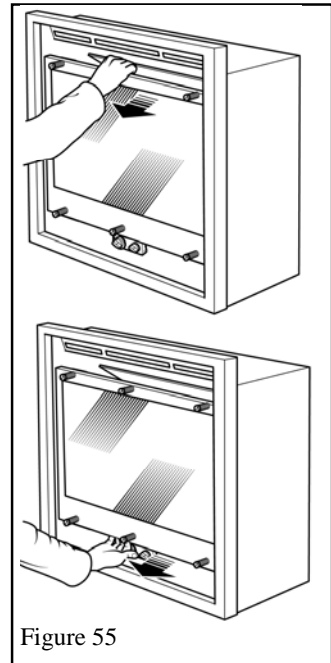

Figure 55
4. Pull the top of the window forward and release to check that it opens slightly and returns in the event of a delayed ignition explosion. See figure 55.
5. Similarly check the bottom of the window by pulling it forward and releasing. See figure 55.